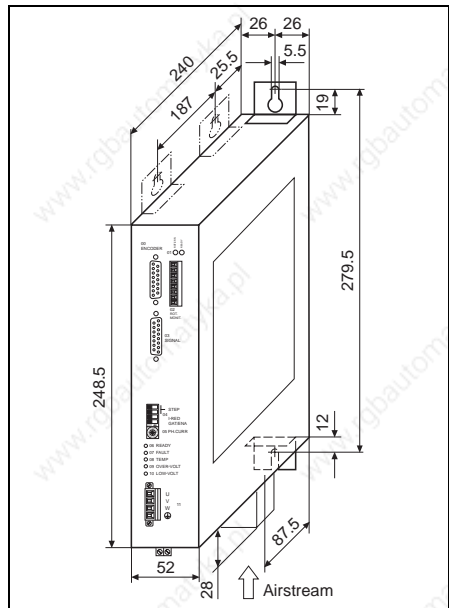

Fig. 4 Installing the WD3-00X unit
The WD3-004 and WD3-008 units have been designed for wall mounting in a vertical position in a switch cabinet. Use the mounting brackets to fit the unit to the back or left-hand side of the cabinet; see figure 4. If the unit is fitted on the left-hand side, spacers with a thickness of 2.5 mm must be inserted.
**Accessory fan** For the WD3-008 unit, the fan must be installed under the unit. The airstream must pass through the unit from bottom to top (see fig. 4). The arrow on the fan indicates the direction of the airstream if the fan is connected correctly (red = 24 VDC, black = 24 VGND).